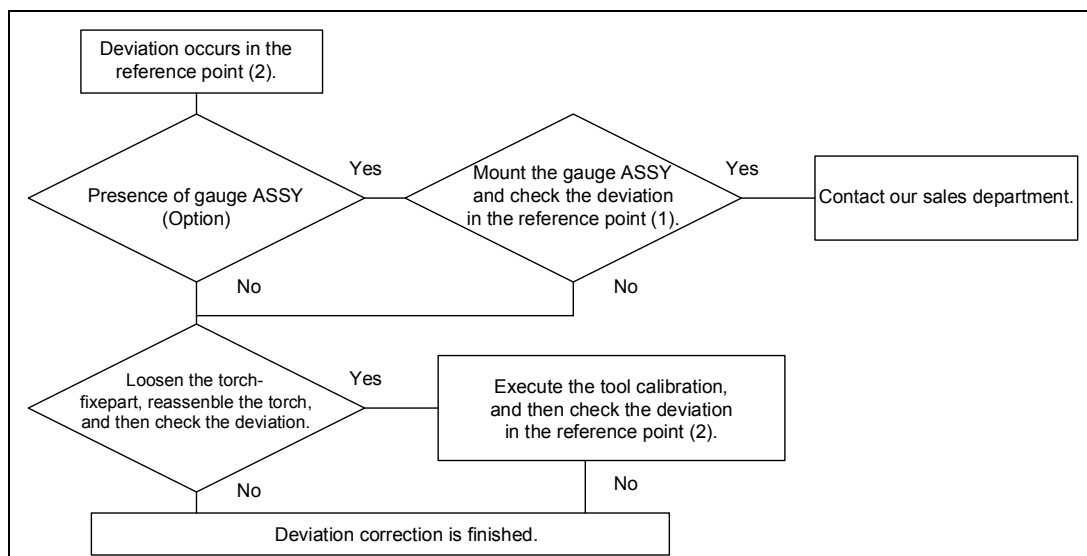

Fig.3.12 Checking procedure when the torch deviated
In the daily check, see if no deviation has occurred in the reference point (2) taught by the origin-position check program. If any deviation has occurred caused by the torch collision etc., correct it by the procedure Fig.3.12.